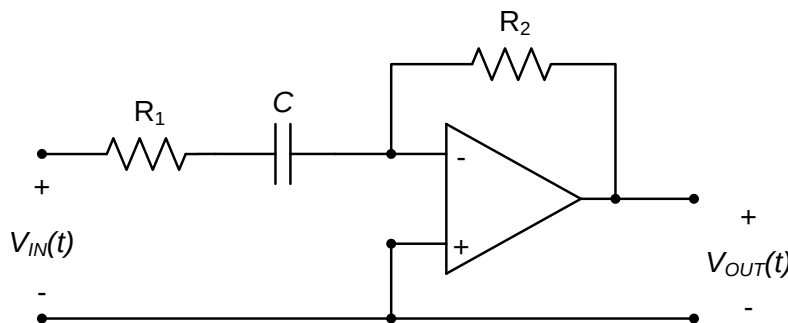

Figure 1. Inverting high-pass filter circuit.
- **Input resistance:** the input resistance is the ratio of input voltage to input current for a circuit. In the circuit of Fig. 1, the input resistance is dependent upon both the capacitance and the frequency. However, at high frequencies, the capacitor behaves like a short circuit, and the input resistance is essentially the resistance  $R_1$ .
- **High frequency gain:** the high frequency gain (the gain as  $\omega \rightarrow \infty$ ) is, from equation (2), the ratio of  $R_2$  to  $R_1$ . Once  $R_1$  is determined from the input resistance requirement, the high frequency gain specifies the required value for  $R_2$ .
Design the circuit of Fig. 1 (e.g. choose values for  $R_1$ ,  $R_2$ , and  $C$ ) to meet the following design requirements:
Determine the response of the circuit of Fig. 1 to a DC input voltage. What will the circuit's response be to the DC voltage provided by the sensor?